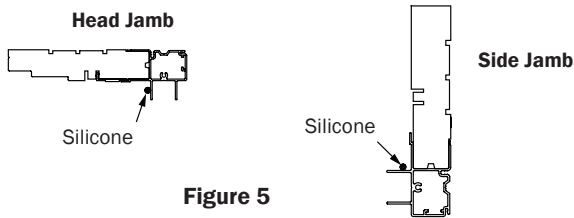

Figure 5
- Before rotating panel into position, place a 1/4" horizontal bead of silicone along interior of screen track where stationary panel will be placed (Fig. 5).